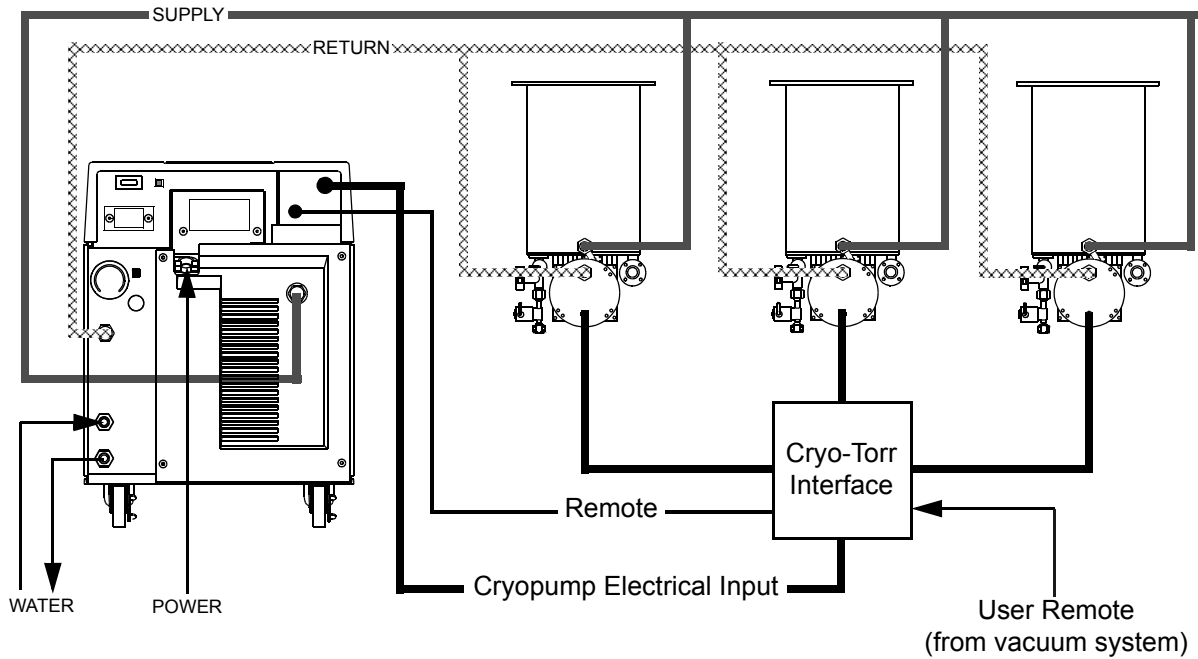
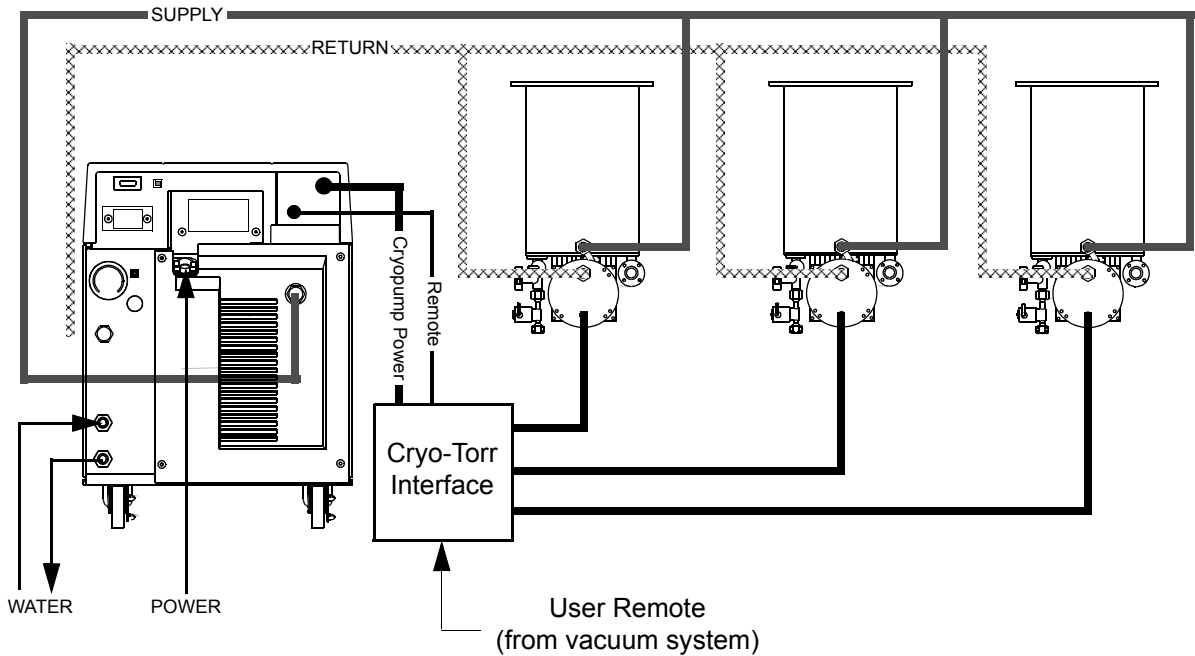

Figure 3-8: Multiple Cryo-Torr Cryopump Installation
Figure 3-9: Multiple Cryo-Torr Cryopump Installation
1. Connect the Cryo-Torr power cable between the CRYOPUMP ELECTRICAL OUTLET on the rear panel of the Compressor and the CRYOPUMP ELECTRICAL INPUT on the Cryo-Torr Interface as shown in Figures 3-8 or 3-9.
2. Connect the Cryo-Torr Power Cables between the CRYOPUMP 1, 2, or 3 connectors on the Cryo-Torr Interface and the respective Cryo-Torr Cryopumps as shown in Figures 3-8 or 3-9.
3. Connect the User Remote cable to the Cryo-Torr Interface as shown in Figures 3-8 or 3-9.
4. Connect the Remote cable between the Cryo-Torr Interface and the Compressor as shown in Figures 3-8 or 3-9.
NOTE: The Cryo-Torr Interface can be installed at the process tool containing the cryopumps as shown in Figure 3-8 or near the Compressor as shown in Figure 3-9. CTI-CRYOGENICS recommends that the Cryo-Torr Interface be installed at the process tool to reduce cable requirements.